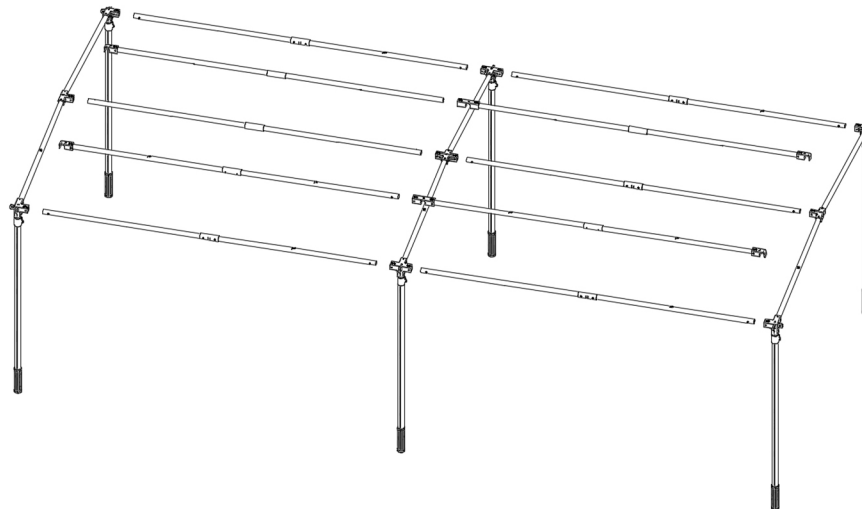

Figure 2 - Assembly diagram
- Assemble components 2.1 to 2.5 in sequence according to Figure 2.